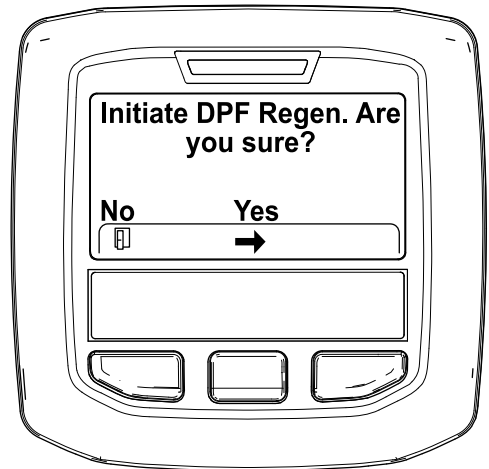

Figure 45
4. When the "Initiate DPF Regen. Are you sure?" message displays, press the center button (Figure 45).